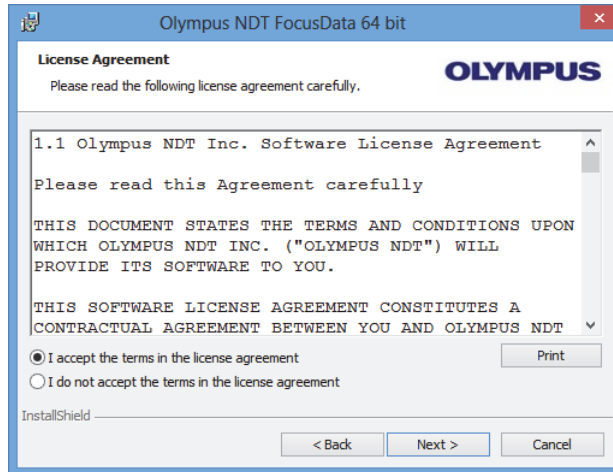

Figure 1-4 The Software Agreement page
3. On the **Software License Agreement** page of the installation wizard, click **I agree** (see Figure 1-4 on page 15).